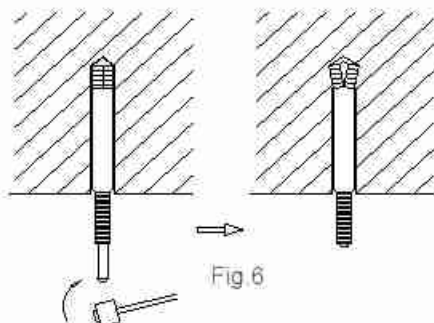

Fig 6
- (2) Insert the anchor bolts into the drilled holes, and drive the pins completely into the anchorbolts with a hammer. (Fig. 6)
- (3) Install the hanger to the unit.